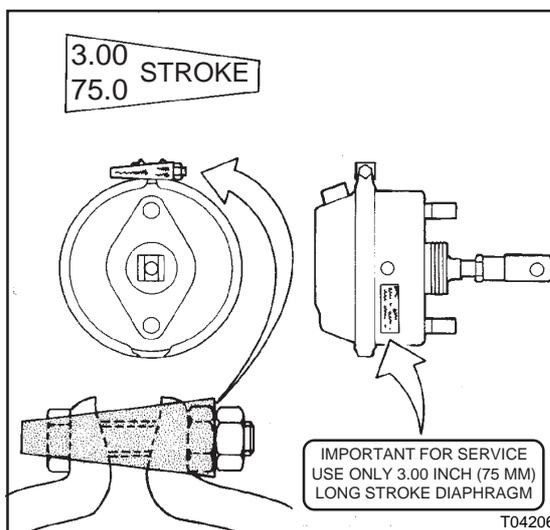

Figure 1: Labeling long stroke brake chamber of the front axle
- front axle: 3 inch stroke (figure 1)